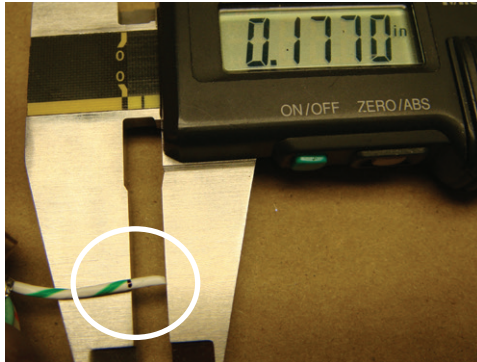

Figure 25: Marking each wire
13. Mark each wire at 0.177 inches + 0.008 inches / -0.000 inches from the end of each primary wire (Figure 25).